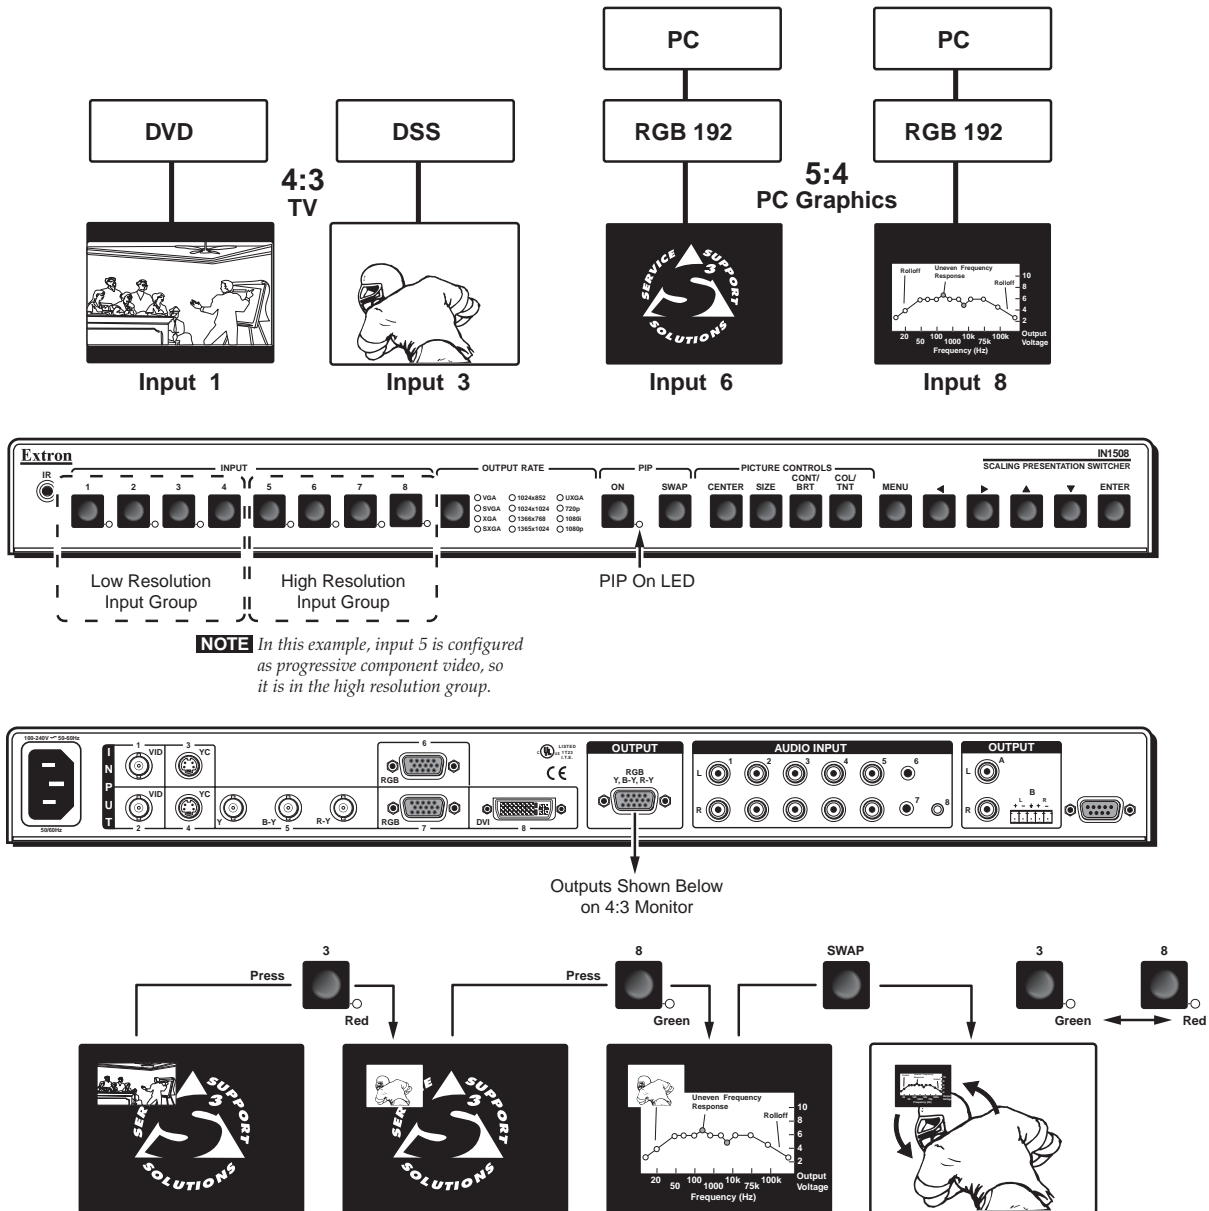

Figure 3-9 — PIP mode input selection and swap operations
Each of the eight inputs is assigned to one of two groups (see figure 3-9 on the next page):
- In figure 3-9, when you push the Input 3 button, input 3 replaces input 1 in the PIP window.
- In figure 3-9, when you push the Input 8 button, input 8 replaces input 6 in the main window.
- If the primary input (the image displayed in the main window) is a **high-resolution input**, the secondary input (the image displayed in the PIP window) **must** be a **low-resolution input** (figure 3-9).
- If the primary input is a **low-resolution input**, the secondary input **must** be a **high-resolution input** (figure 3-9).
The PIP function toggles between the selected input in each group. In figure 3-9, when you push the Swap button: